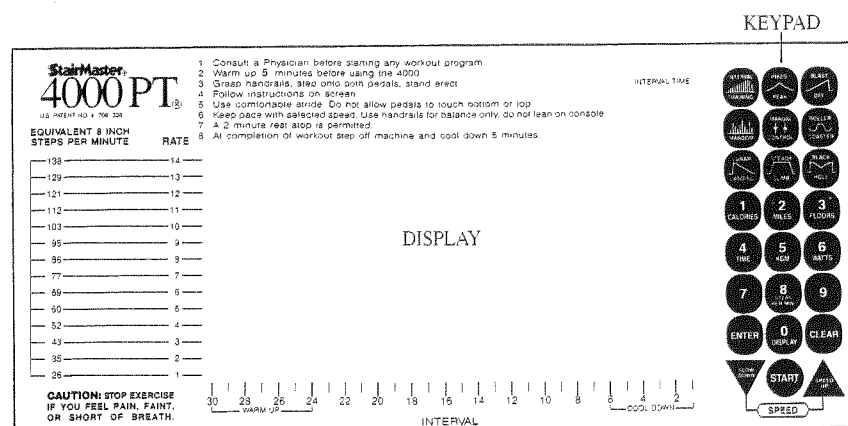

Figure 1. The StairMaster 4000 PT Console
2. **THE DATA ENTRY MODE.** In the Data Entry mode, the user must furnish information the computer needs to control the speed of the workout and to accurately calculate the physiological and performance feedback. This mode is entered only from the Attract mode by pressing START or by stepping on one of the pedal/steps. The first prompt on the screen is ENTER WEIGHT. To respond, simply press the appropriate numbers on the keypad and then press ENTER. The range for weight is any number from 1 to 999 pounds (or, for the metric console, 1 to 999 kilograms). Your weight is used to calculate the number of calories you used while exercising. The next prompt is SELECT PROGRAM. You have the choice of exercise programs in the top three rows of the keypad (see Figure 1). The outlines on the keys correspond to the relative profile of the particular program. If you select MANUAL CONTROL or one of the custom programs, the computer has completed the data entry. If you have selected any of the other eight preprogrammed workouts, the console will prompt with ENTER LEVEL and wait for you to enter a difficulty level between 1 and 10, with 1 being the lowest workout intensity. If you have the Revision 2.1 or 2.2 software and you have selected MANUAL CONTROL or one of the preprogrammed workouts, the computer will ask for the length of your workout in minutes before completing the data entry.